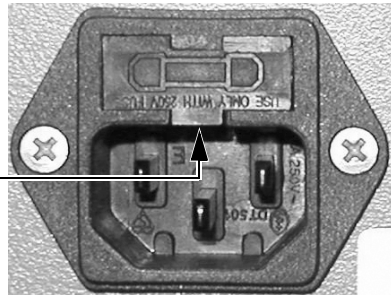

Figure 8 Removing the fuse holder
- 3 Using a small, flat-bladed screwdriver, pry the fuse holder from the back of the unit. See Figure 8.